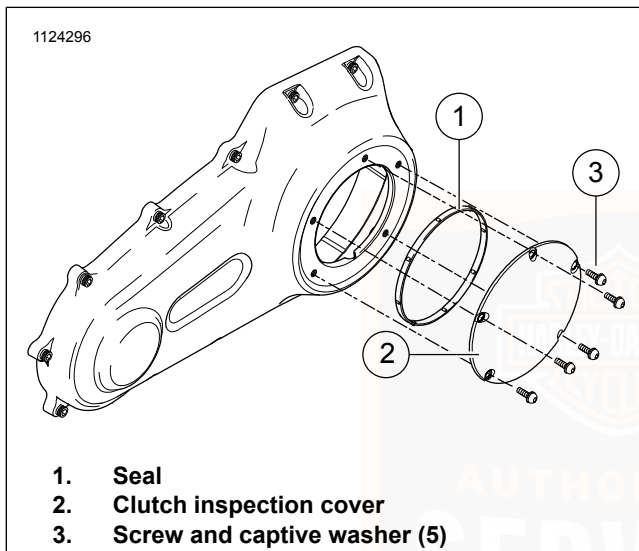
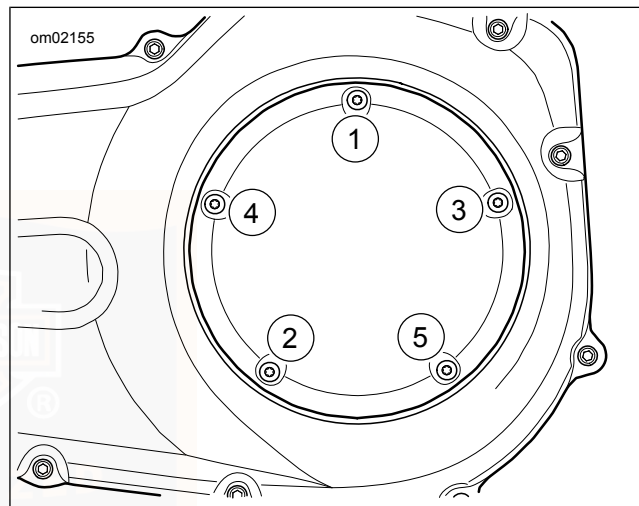

Figure 59. Clutch Cover (Typical)
Figure 60. Clutch Cover Tightening Sequence
6. See Figure 59. Remove screws (3) and clutch inspection cover (2).
7. Remove seal (1). Wipe oil from groove in chaincase cover and mounting surface.
- b. See Figure 59. Position **new** seal (1) in groove in clutch inspection cover (2). Press each of the nubs on seal into the groove.
- c. Secure clutch inspection cover (2) with screws with captive washers (3).
- d. See Figure 60. Tighten in sequence shown to 84–108 **in-lbs** (9.5–12.2 N·m).